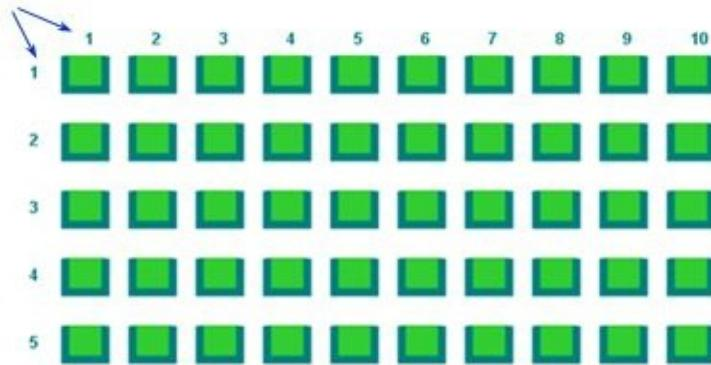

Figure 12.40 Movie theater seats at runtime – 50 instances of a polyline
1. Create two text shapes, set the static text for both to e.g. “1”, and place one above and the other – on the left of the seat polyline, as shown in Figure 12.40.